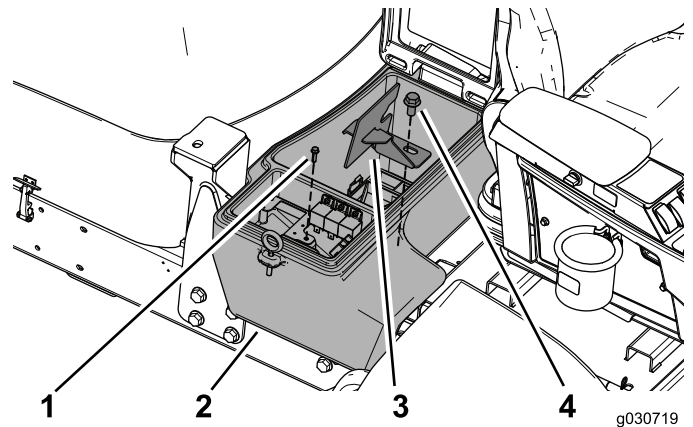

Figure 22
5. Use the screw to secure the wiring harness plate to the machine and use the bolt (1/2 x 1 inch) to secure the battery-compartment clamp and the battery compartment to the machine (Figure 22).